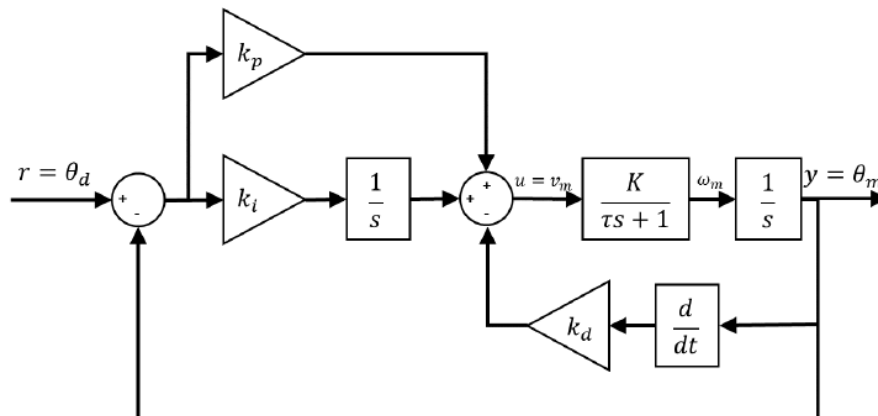
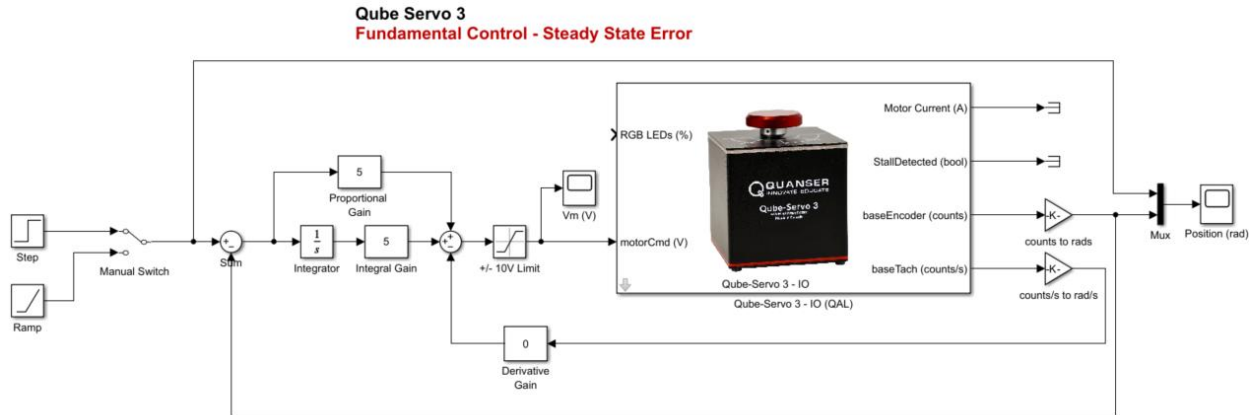

Figure 1: Block diagram of a PID controller
Figure 2: Simulink/QUARC model implementing PID position control.
Note that in the PID controller for this lab, the derivative gain is applied to the derivative of the output (that is, the velocity of the inertia disc) as shown in Figure 1 and this is sometimes called PIV control.
Use the qs3\\_sse.slx file. This model will implement a PID controller as described in the PID concept review and in Figure 1. Use the gain value found in previous labs to convert the encoder counts to radians and counts/s to rads/s. Connect all the blocks as shown in Figure 2. Use the manual switch to select either a step or ramp input.
4. Open the completed qs3\\_sse.slx Simulink model, as shown in Figure 2.